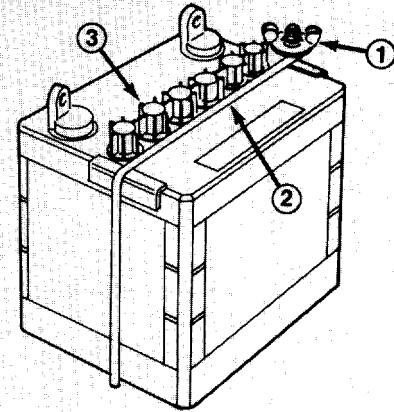

Figure 3
2. Remove wing nut securing battery hold downs to rider chassis. (Fig. 3).